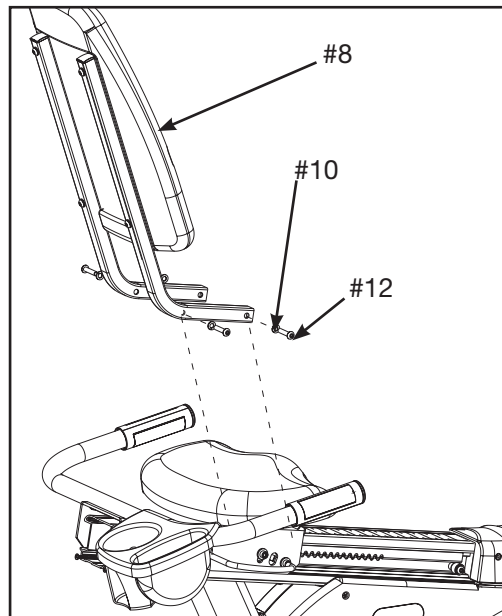

Figure 8
- B. Place the seat back assembly in the correct position and hand thread each of the screws 5-16-18 x 1.50 (#12) and four washers 5-16" (#10). See Figure 8.